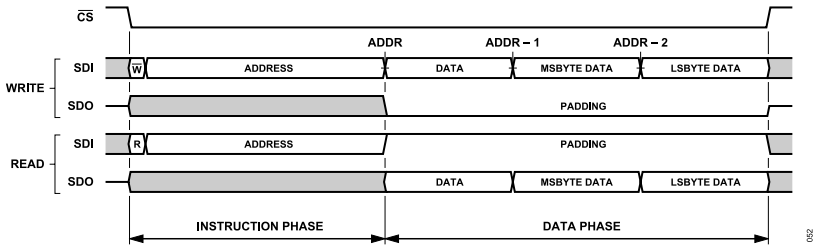
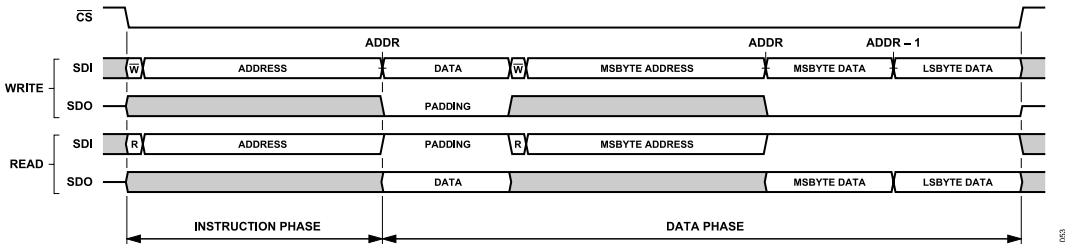
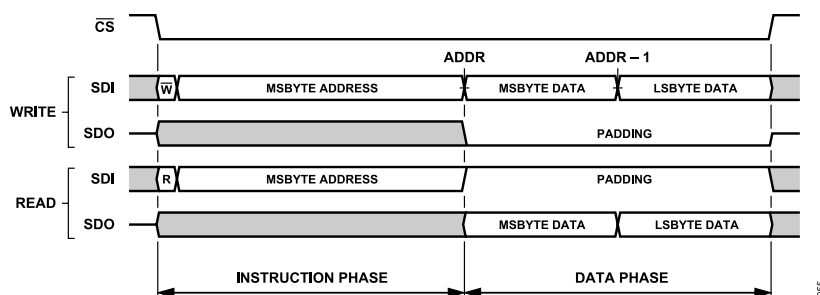
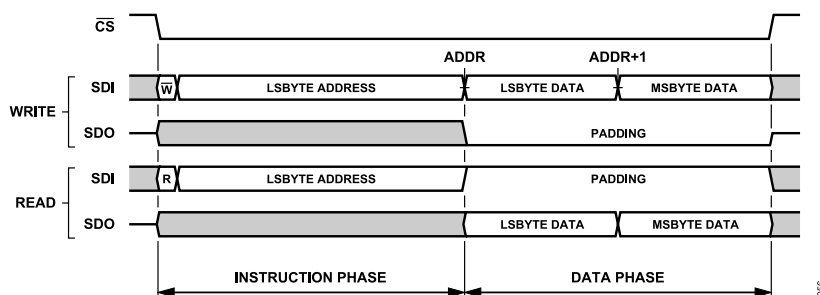

Figure 56. Interface Access Example, Default Interface Configuration, Streaming Mode (ADDR_ASCENSION = 0)
Figure 57. Interface Access Example, Single Instruction Mode (SINGLE_INST = 1), All Other Interface Options Default
Figure 59. Single Instruction Format, ADDR_ASCENSION = 0 (Descend), STRICT_REGISTER_ACCESS = 1 (Enabled)
Figure 60. Single Instruction Format, ADDR_ASCENSION = 1 (Increment), STRICT_REGISTER_ACCESS = 1 (Enabled)
Figure 56 illustrates the generic SPI frame formatting for a serial transaction using the default interface configuration. In this example, a portion of the configuration register space consisting of a byte-wide register and a multibyte register is accessed. The address for the byte-wide register resides in the most significant address (ADDR) and the most significant byte of the multibyte register resides in the least significant address of the register segment. By default, the ADDR_ASCENSION property is set to descending, indicating that the address for the most significant register is passed to the host controller during the instruction phase. Depending on the selected operation, the instruction word
In single instruction mode (SINGLE_INST = 1), the memory access controller requires an instruction phase to transmit for each register accessed in a given SPI frame as illustrated in Figure 57. This mode is useful when access to nonadjacent sections of the register space is required in a given SPI frame. Note that, the same access flexibility can be achieved in stream mode by initiating a new SPI frame for each unique register access.
The address ascension selection (ADDR_ASCENSION) bit, as described in previous sections, determines how the internal interface address pointer is updated for each byte of data transmitted to the AD4081 in streaming mode (SINGLE_INST = 0). If using single instruction mode (SINGLE_INST = 1), each register is directly addressed through its own instruction phase as illustrated in Figure 57, and thus, the address pointer is not updated. Regardless of the setting for SINGLE_INST, the ADDR_ASCENSION bit directly impacts the formatting of the SPI frame in terms of selection of the instruction phase starting address and byte order of the data phase payload. This impact is described in greater detail in the Strict Access Selection and Multibyte Registers section as much of the data formatting is dependent on this interface configuration selection. The ADDR_ASCENSION selection bit is located in the Interface Configuration A register (see the Interface Configuration A Register section, Address 0x00).
As indicated in Figure 59, the address counter, by default, automatically decrements (`ADDR_ASCENSION = 0`) such that the most significant byte of the multibyte register is accessed first, followed
As an extension of this concept, when `STRICT_REGISTER_ACCESS = 1`, any SPI frame that accesses a multibyte register as the first entity in the data transfer must correctly set the starting address in the instruction word to correspond to the `ADDR_ASCENSION` selection. In the case that the address counter automatically decrements (`ADDR_ASCENSION = 0`), the starting address is assigned to the register address for the least significant byte of that multibyte register, and conversely, if configured to increment automatically, the starting address must be set to the register address for the most significant byte. As a result of the change to `ADDR_ASCENSION` from automatic address decrement (0) to automatic increment (1), Figure 56 and Figure 57 will change as illustrated in Figure 59 and Figure 60 to accommodate the changes in data phase byte order and instruction phase multibyte register start address.